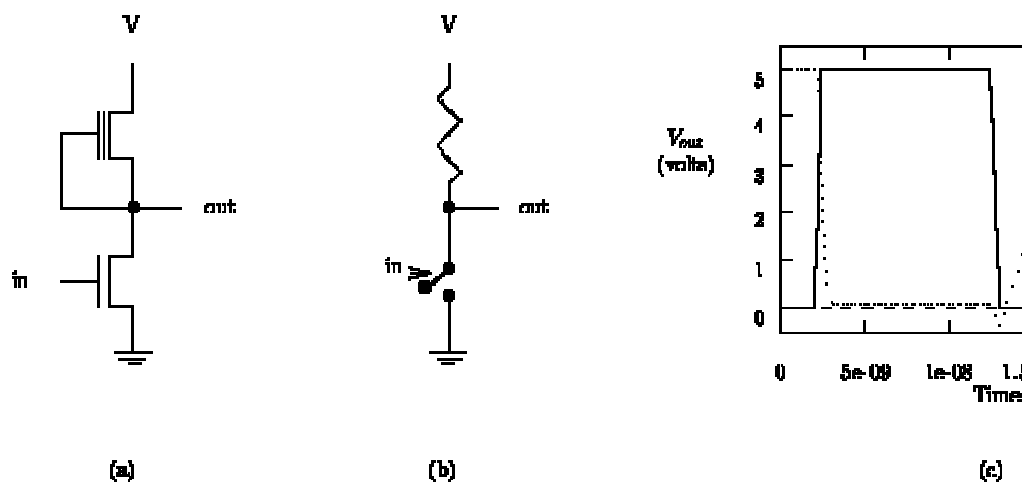

Figure: 1.7 An NMOS inverter
Both enhancement and depletion mode transistors are used in many of today's microelectronic circuits. The most popular circuit technology using both enhancement and depletion mode devices is the conventional NMOS technology. In this technology, depletion mode transistors are mainly as resistors, and enhancement mode transistors are used as switches. Figure 1.7 shows a typical inverter implemented in this technology, together with its switch equivalent. Also shown is a plot of the output of a typical example of such an inverter for a given input pulse. (The input pulse has a rise and fall time of 0.5 ns.)
2. When driving a capacitive output load such as the gate of another transistor, the charging time (proportional to $R_{dep}C$) will be long compared to the discharging time (proportional to $R_{enh}C$). This effect is clearly evident in Figure 1.7 (c).